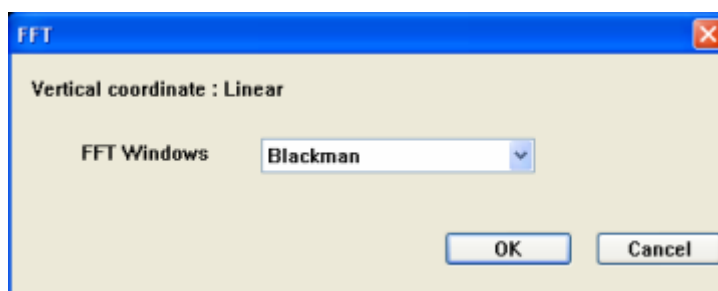

Fig.4-8
FFT: It is used for realizing Fourier transformation for the imported waveform. The window functions for choosing including Blackman, Hamming, Hanning and Rectangle. See Fig.4-8.
b. Choose File and Open in order in the menu and choose the waveform file through the correct path. See Fig.4-8.